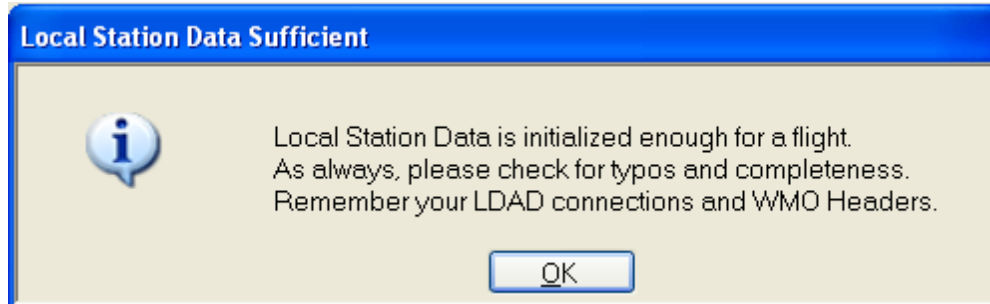

Figure A-20: LDAD Station Data Sufficient
- Click **OK** to close the *Station Data Display*. The message *Local Station Data Sufficient* window will display (Figure A-20).